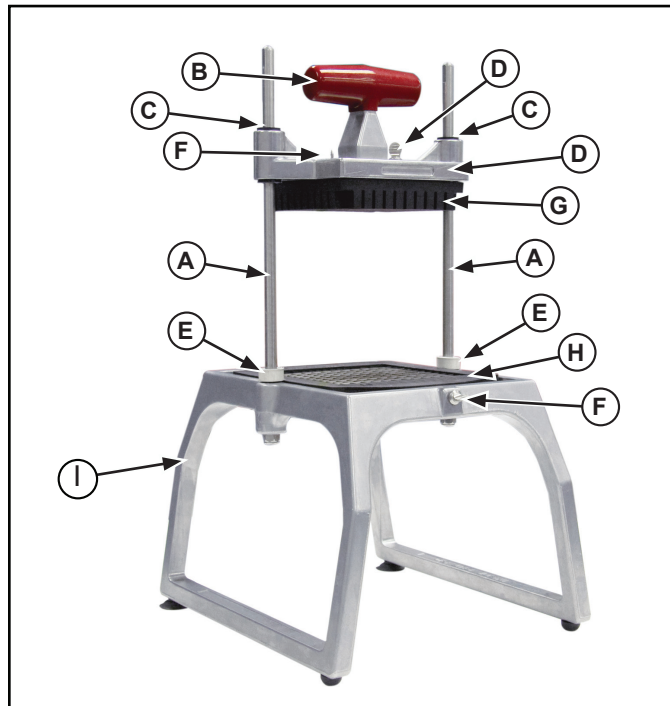

Figure 1. Features and Controls Clamp Base Model.
3. Before each use, always check for proper blade alignment. Slowly set the pusher head (D) onto the blade assembly (H). See Figures 1. They should slide together with no obstructions. If there are obstructions, verify they are a matching set. Remove the obstruction.
6. Lift the handle (B) and place the food product on the blade assembly (H) with the flat side down. See Figure 1.
7. Remove hand from the blade assembly (H) area and place that hand on the leg of the base (I).
1. Slide the pusher head (D) off the rod guides (A). Figure 1.
2. Raise the bumpers approximately (E) 2" (5.0 cm). See Figures 1 and 2.
3. Loosen the thumbscrew (F) on the base (I) and carefully remove the blade assembly (H). See Figure 1.
4. Wipe, rinse or spray off equipment, pusher head assembly (D) and blade assembly (H) thoroughly with HOT water.
6. The blade assembly (H) is best cleaned by forcing water under pressure through the blades from the unsharpened side. If necessary, use a nylon bristle cleaning brush to push food particles out from the unsharpened side of the blade assembly (H).
9. Install the blade assembly (H) by inserting the tab on the blade holder into the groove in the base, then lowering the blade holder into the seated and flush position in the base. Tighten the thumbscrew (F).
10. Lubricate the guide rods (A) with mineral oil or Petro Gel after each use. Do not use cooking oil as it will become sticky and may permanently damage the equipment.
11. Slide the bumpers (E) into place.
12. Install the pusher head assembly: Slide the pusher head (D) onto the rod guides (A). Figure 1.
2. Remove the pusher head assembly by sliding the pusher head (D) off the rod guides (A). Figure 1.
3. Raise the bumpers approximately (E) 2" (5.0 cm). See Figure 1.
4. Loosen the thumbscrew (F) and carefully remove the blade assembly (H). Remove the cutting blade assembly (H) by pressing upwards on the bottom of the side of the blade holder, where the thumbscrew (F) is located. Discard the old blade assembly.
5. Install the new cutting blade assembly by inserting the tab on the blade holder into the groove in the base, then lowering the blade holder into the seated and flush position in the base. Tighten the thumbscrew (F).
6. Slide bumpers (E) down guide rods (A) to contact base (I). Position pusher head (D) assembly onto the guide rods (A), slowly lower pusher head assembly (D), and check pusher head block to blade alignment.